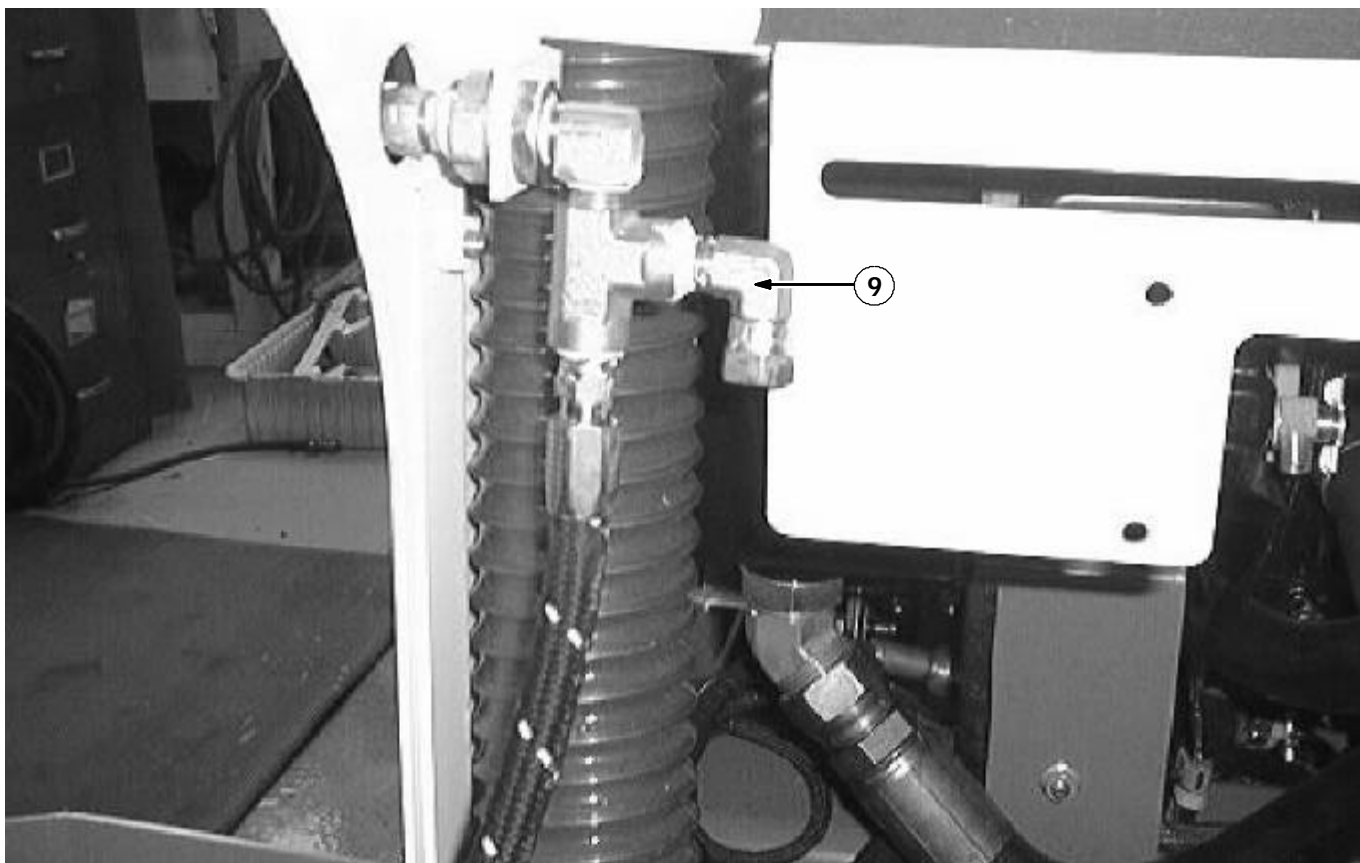
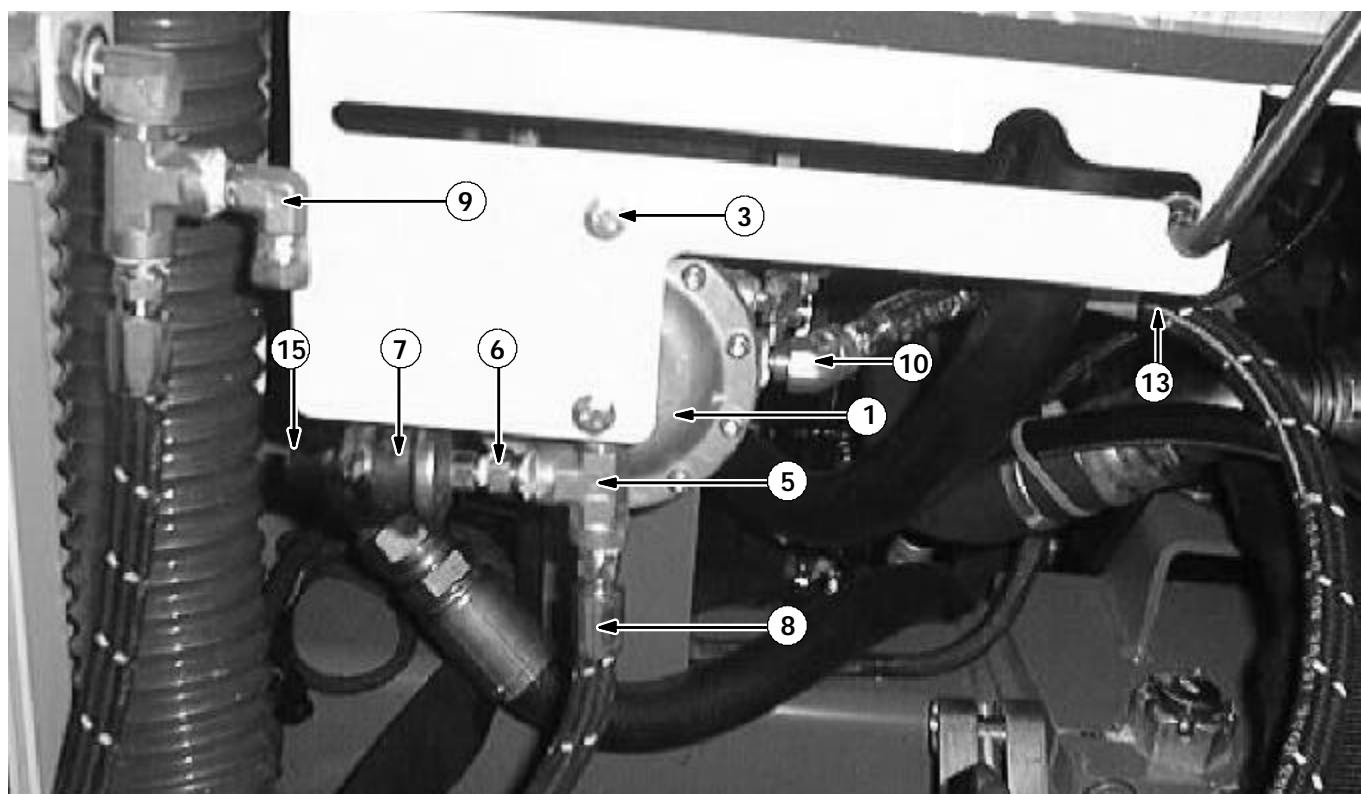

FIG. 5 - NEW PRESS RELIEF VALVE ASSEMBLY INSTALLATION
FIG. 6 - NEW FUELOCKOFF FILTER INSTALLATION
15. Mount the new fuellock filter (1), hoses (8 and 13) and valve assembly to the machine with the new angle bracket (2) and screws (18) and (19). (Refer to FIG. 6)
16. Reconnect the LPG tank hose to the bottom tee fitting on the release valve assembly. (Refer to FIG. 5)
17. Connect the open end of the new short LPG hose (8) to the new 90° elbow (9) on the release valve assembly.
18. Connect the new wire harness (15) to the pressure switch (7). Run the harness up along the main harness and connect the new harness to the main harness. (Refer to FIG. 6 and 8)
19. Route the new long LPG hose (13) from the fuellockoff filter (1), up through the engine compartment, in between the hydraulic tank and the cooling tube. Connect the hose to the LPG vaporizer elbow fitting. Wire tie the hose to the main wiring harness to keep it from rubbing on the hydraulic tank. (Refer to FIG. 6 and 7)
20. Route the vacuum hose (16) along the LPG hose (13) up through the engine compartment, and connect to the carburetor. (Refer to FIG. 5)